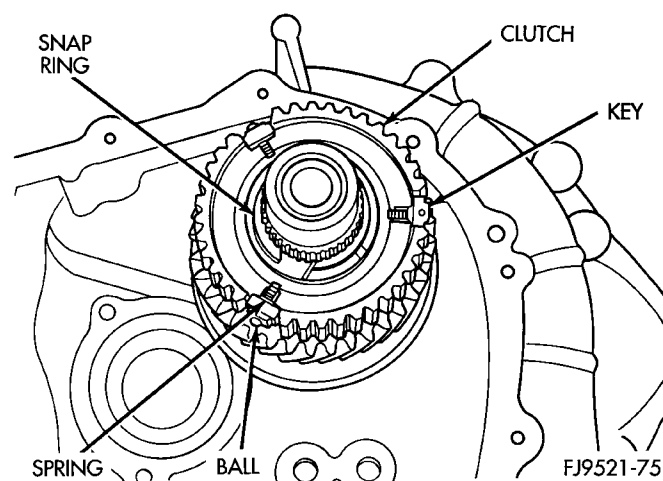

Fig. 120 Keys in Hub
(6) Line up stop ring tang over the keys in the hub (Fig. 120). Install stop rings. Center the keys and balls by pushing on both stop rings.